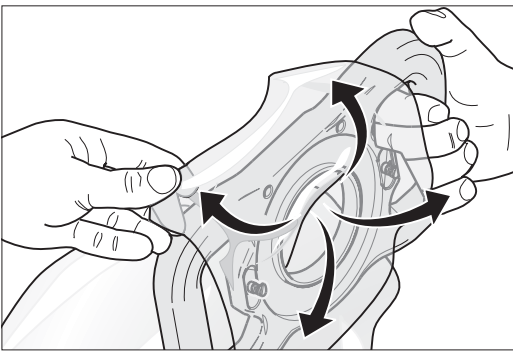

Fig. 17 Pull the waste bag over the fixture.
- 8 Pull the waste bag over the emptying fixture from behind (Fig. 17).